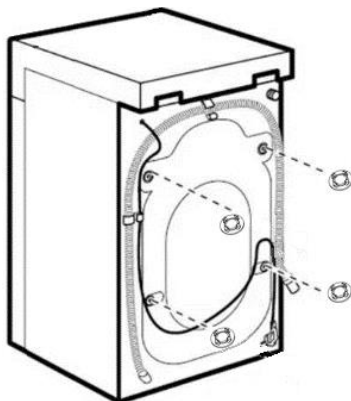

Fig. 3
- 4. Use the supplied protective covers to cover the bolt holes (see Figure 3).